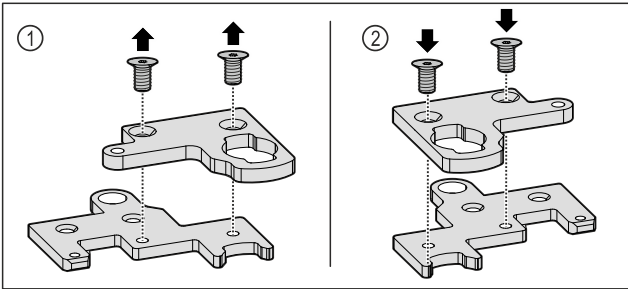

Fig. 29
- ▶ Disassemble the two-part hinge bracket. Fig. 29 (1)
- ▶ Reassemble the two-part hinge bracket rotated by 180°. Fig. 29 (2)